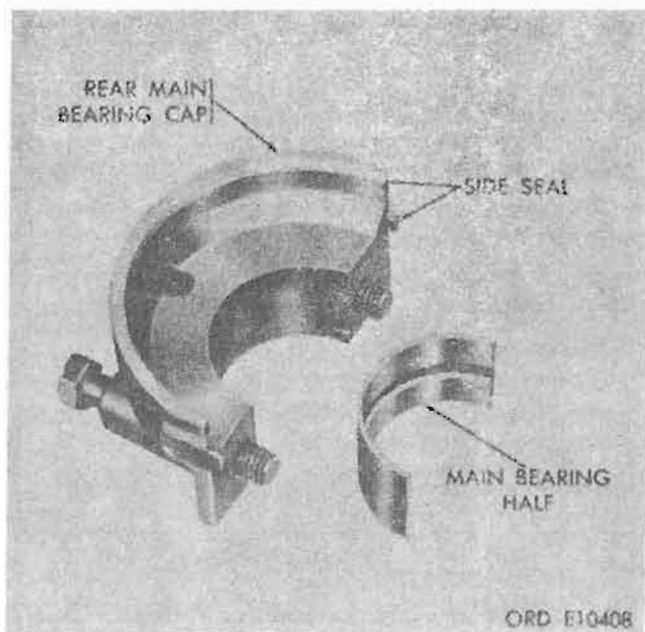

Figure 4-114. Rear main bearing cap seals.
d. **Rear Main Bearing Cap Seal.** Remove and discard four side seals on rear main bearing cap (fig. 4-114).